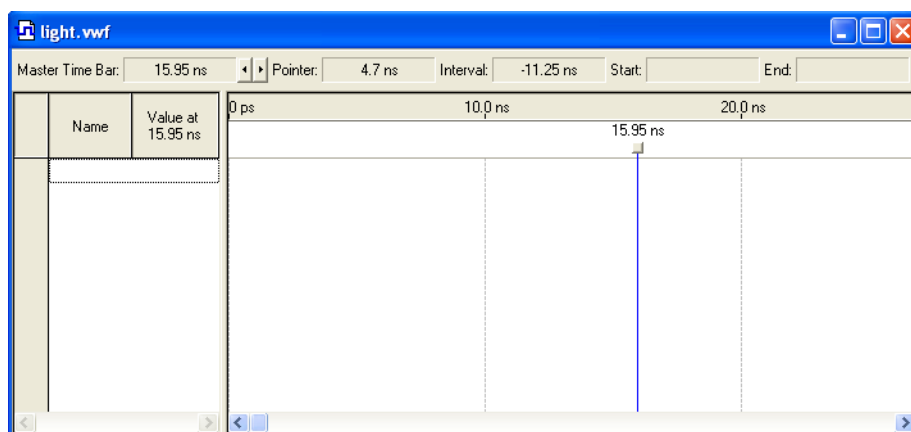
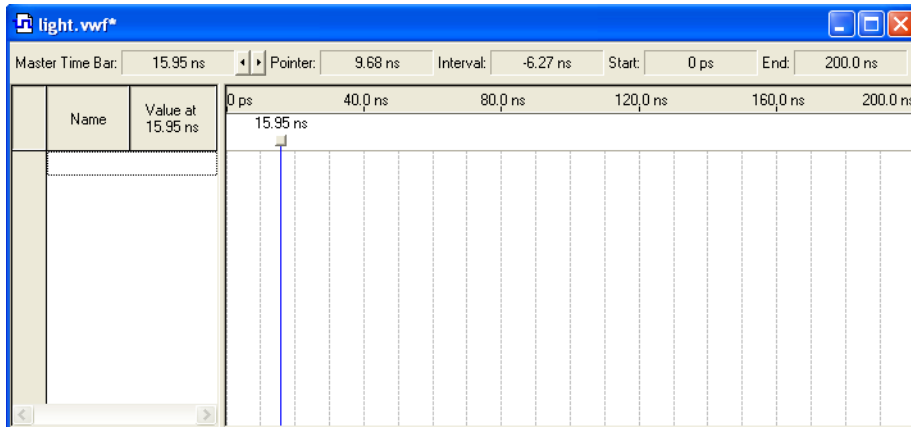

Figure 29. The Waveform Editor window.
Figure 30. The augmented Waveform Editor window.
2. The Waveform Editor window is depicted in Figure 29. Save the file under the name *light.vwf*; note that this changes the name in the displayed window. Set the desired simulation to run from 0 to 200 ns by selecting Edit > End Time and entering 200 ns in the dialog box that pops up. Selecting View > Fit in Window displays the entire simulation range of 0 to 200 ns in the window, as shown in Figure 30. You may wish to resize the window to its maximum size.